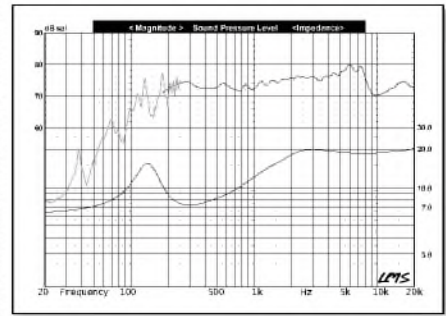
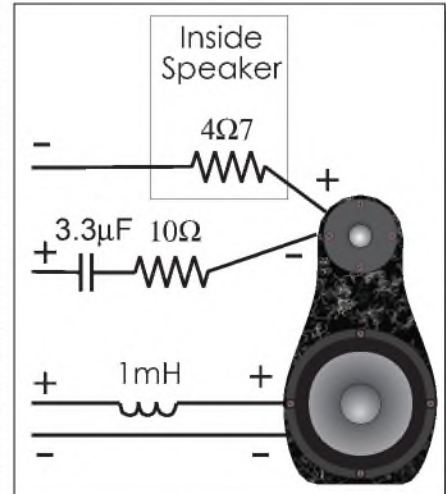

FIGURE 12: Satellite speakers with passive crossover.
FIGURE 13: Passive crossover.
*Figure 12* graphs the satellite speakers with a passive crossover. *Figure 13* shows the passive crossover—note the tweeter is reverse phase.